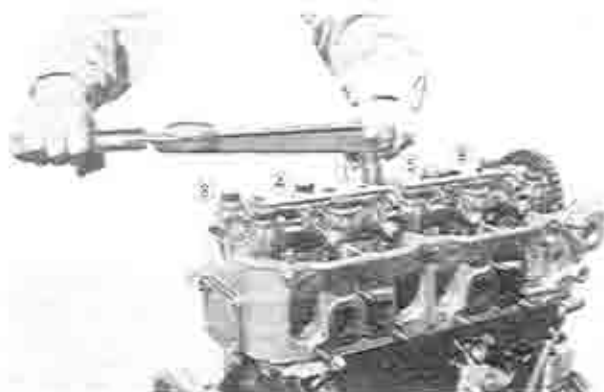

Fig. 1-70 Tightening order
5. Tighten the cylinder head bolts evenly to 8.0 m-kp (60 ft-lb) in the sequence shown in Fig. 1-70.